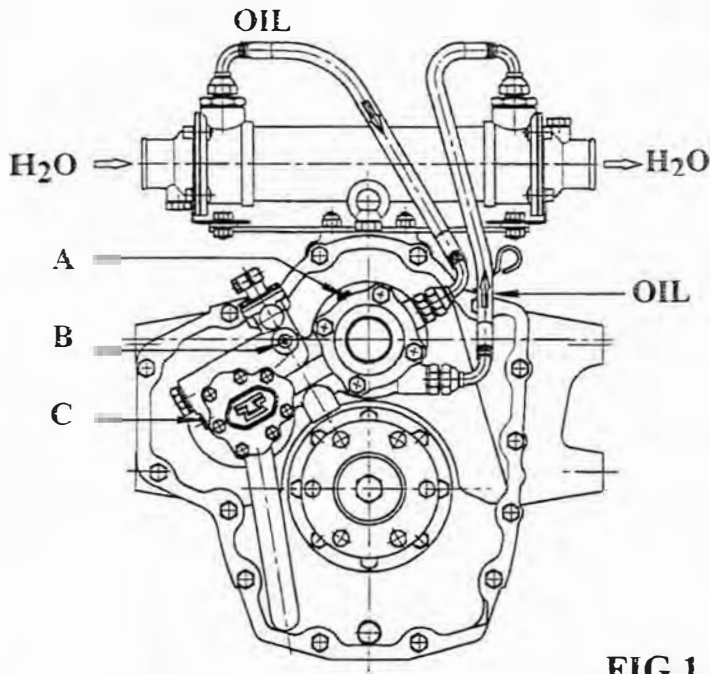

FIG.1
- The heat exchanger connection is achieved as shown in fig.1.
- Oil pressure measured at 1000 RPM engine speed, oil temperature 60°C, is to be between 20 and 22 bar. Pressure gauge connections M10x1 are placed, refer to fig.1, on A (forward) and C (reverse).